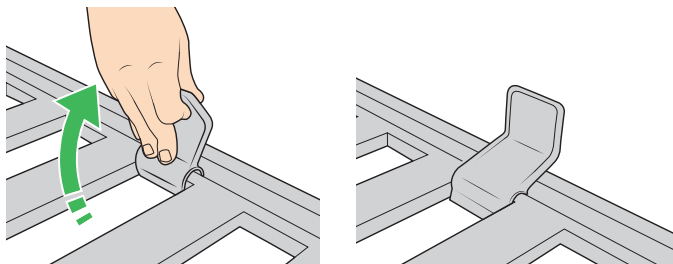

Figure 9
- To attach, snap the mattress retainer onto the bed frame and rotate it in place. See Figure 9.